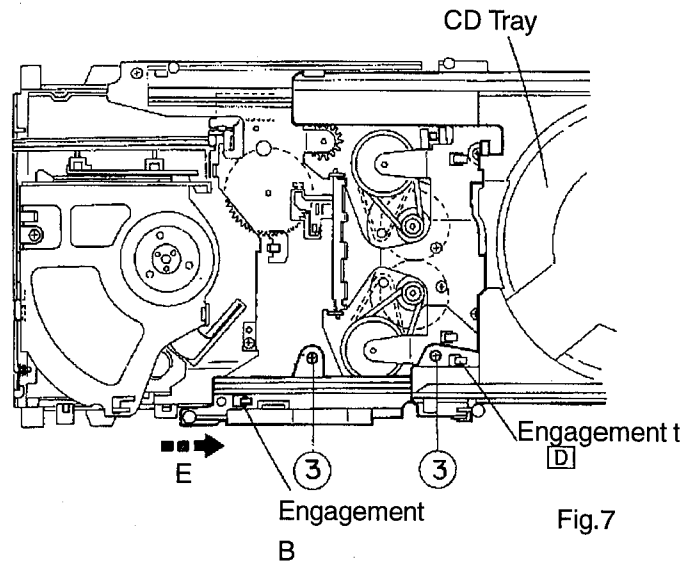

Fig.7
- 3.Remove the two screws ③ retaining the tray guide(L)unit(See Fig.7).